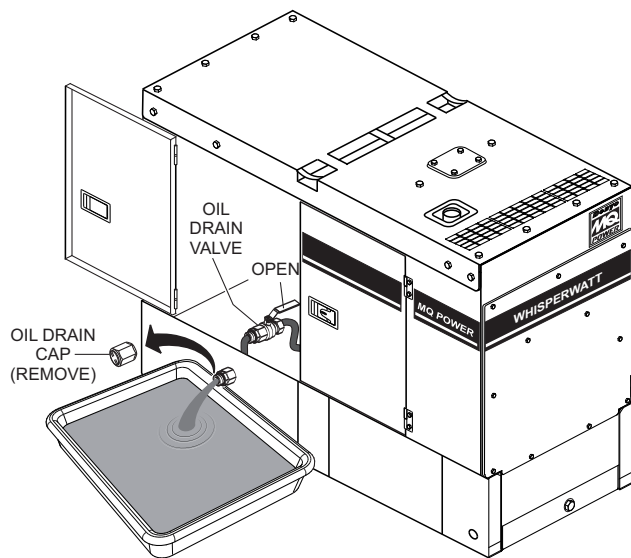

Figure 70. Draining Engine Oil
4. Remove the **oil drain cap** (Figure 70).
5. Place the **oil drain valve** in the open position (Figure 70) and allow the oil to drain into a suitable container.